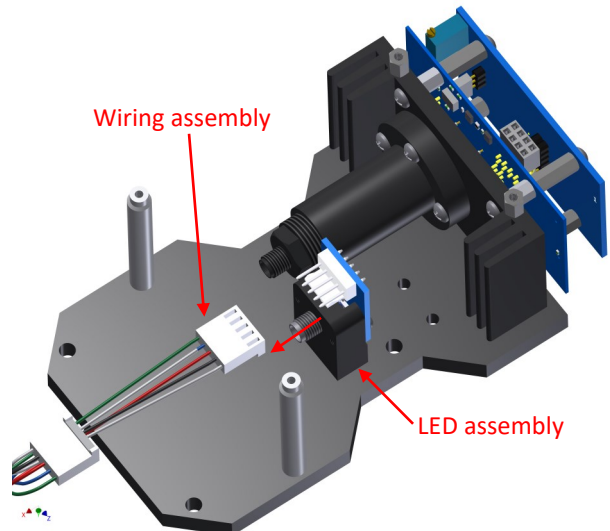

Figure 1.3.4
4. Remove the other end of the LED wiring assembly. See figure 1.3.4.